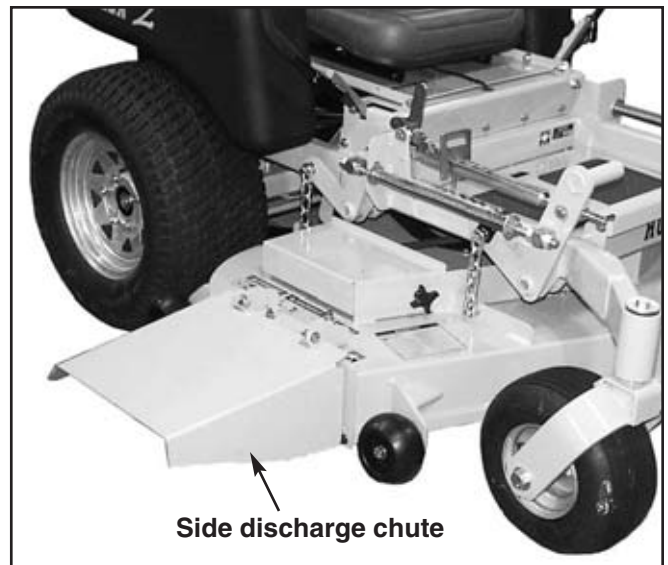

Figure 3-10
**Direct grass discharge to right, away from unmown area.** Select a mowing pattern that directs grass discharge towards the outside, not towards center, of mowing area. Generally, this means using a pattern utilizing **left turns** because side discharge (Fig. 3-10) is to **right**. In any case, avoid throwing grass discharge onto unmowed area because grass is then mowed "twice". Mowing twice puts an unnecessary load on the unit and reduces mowing efficiency.